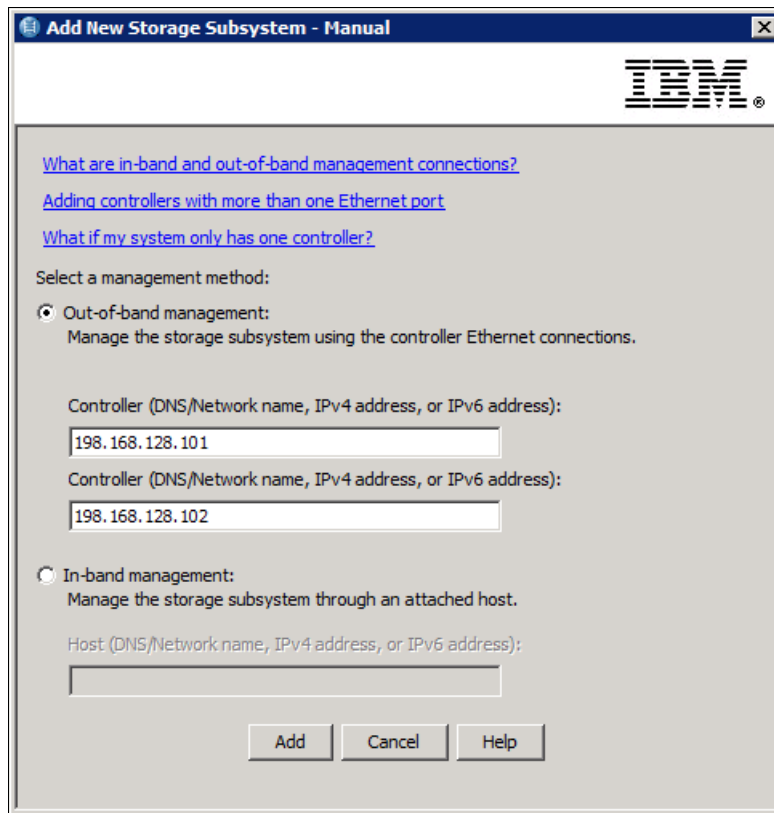

Figure 4-27 Out-of-band management
- When using out-of-band management, select **Out-of-band management** and enter the IP addresses of both the controllers, as shown in Figure 4-27.